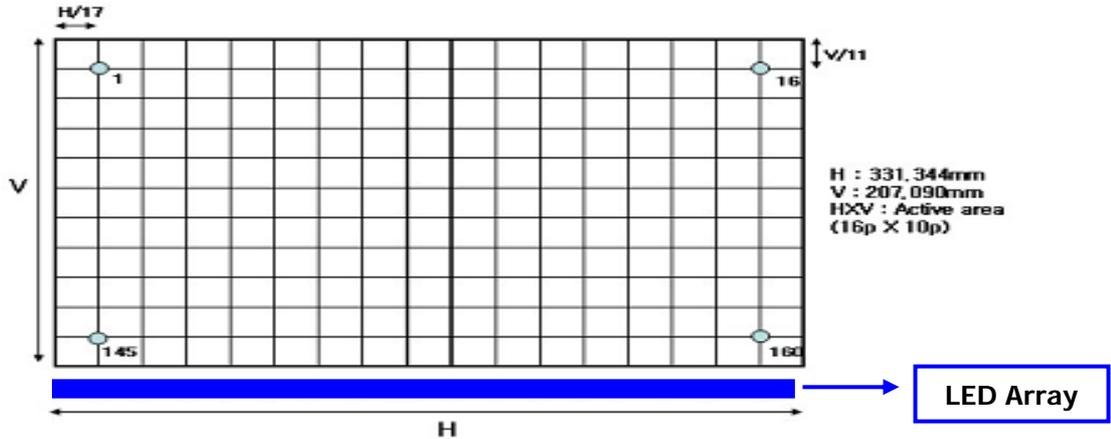

FIG. 3 Response Time
2. Response time is the time required for the display to transition from white to black (rise time, T_{R}) and from black to white(Decay Time, T_{D}). For additional information see FIG 3.